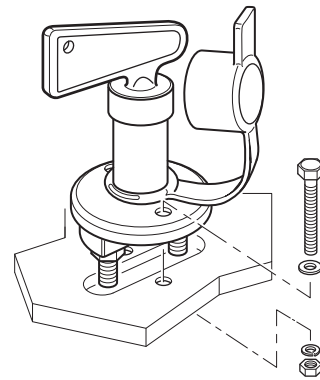

Fig. 48
- ▶ Install the battery cut-off switch at a suitable location inside the vehicle and fix in place using the screws supplied (Fig. 48).